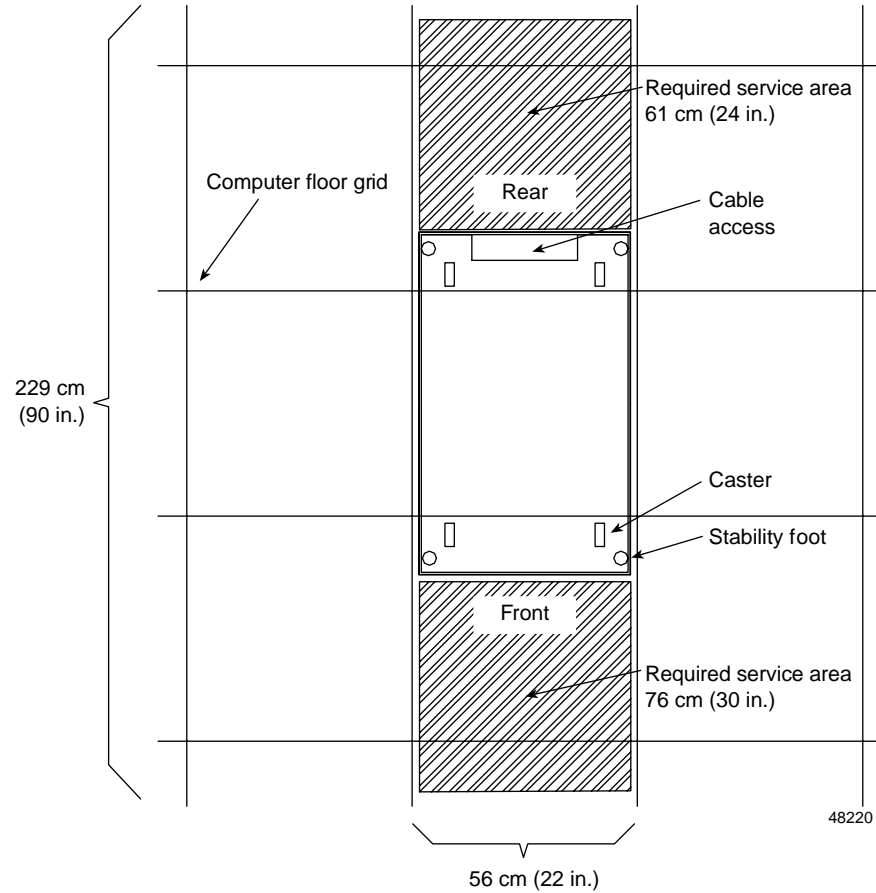

Figure A-3 System Area Requirements
- Sufficient space to install and service the rack and components (see Figure A-3).